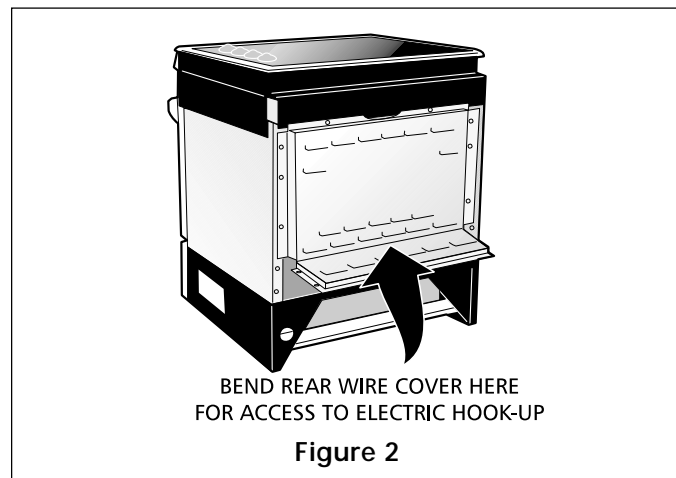

Figure 2
- A. Remove the 3 screws at the lower end of the rear wire cover, then raise the lower end of the rear wire cover (access cover) upward to expose range terminal connection block (see Figure 2).